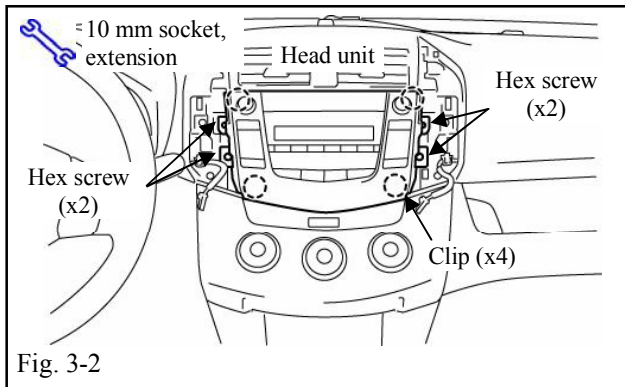

Fig. 3-2
- (1) Remove four (4) head unit hex screws, disengage four (4) clips; then pull the head unit toward you to remove. (Fig. 3-2)